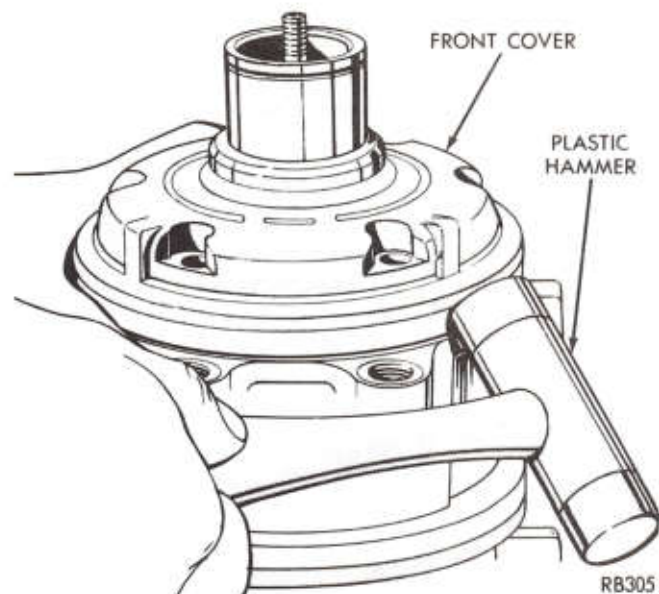

Fig. 3—Removing Front Cover
- (3) Remove front cover by tapping on the outside diameter of the cover with a plastic hammer. (Fig. 3).